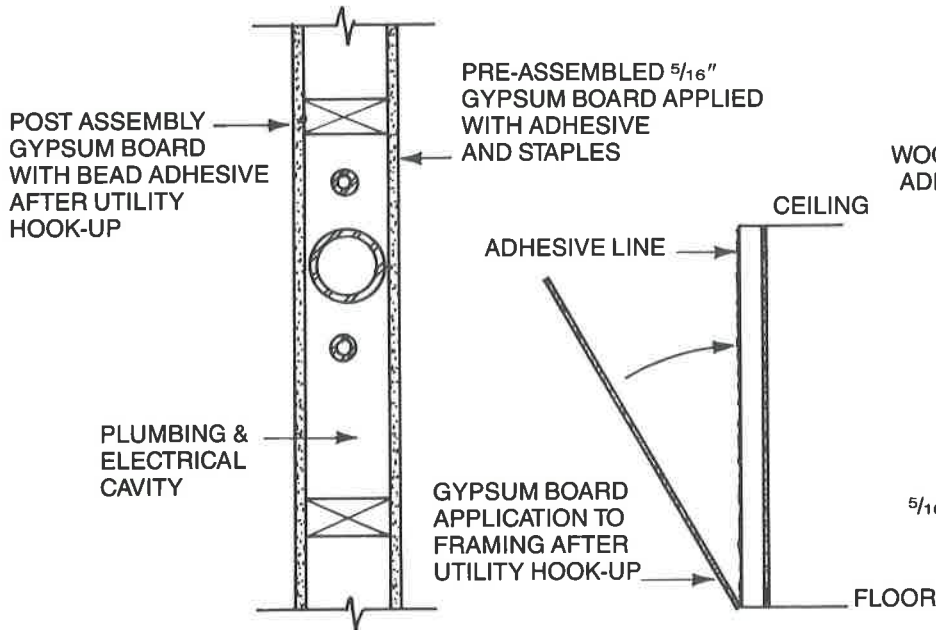

Fig. 6J
- 6.4** All supports for cabinets, shelving, electrical fixtures, mirrors, drapery hangers and the like, should be installed during manufacture of the unit. (See figures 6J, 6K & 6L)